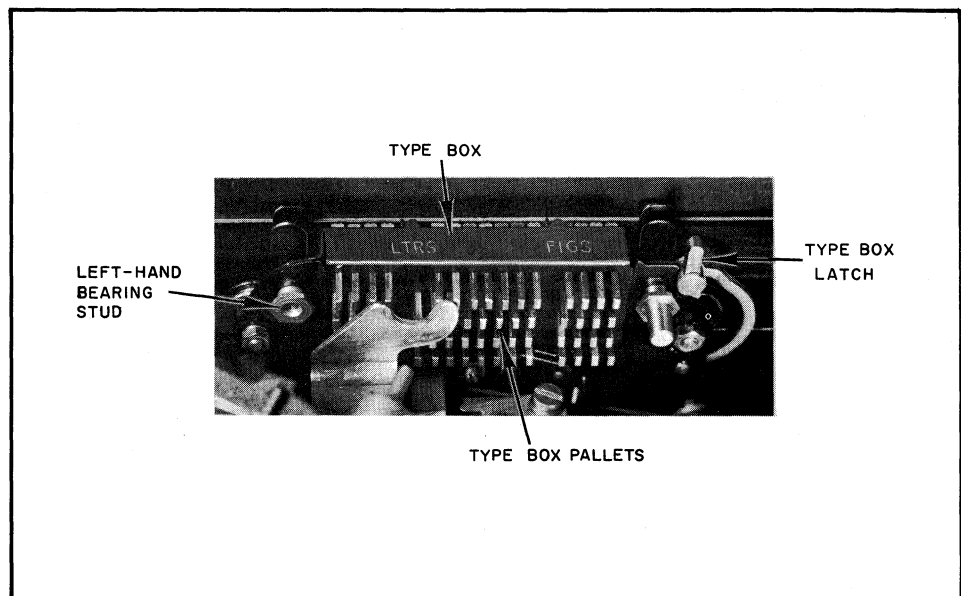

Figure 23. Removal of the Type Box
2. Push the type box latch to the right to release it. (See Figure 23.)